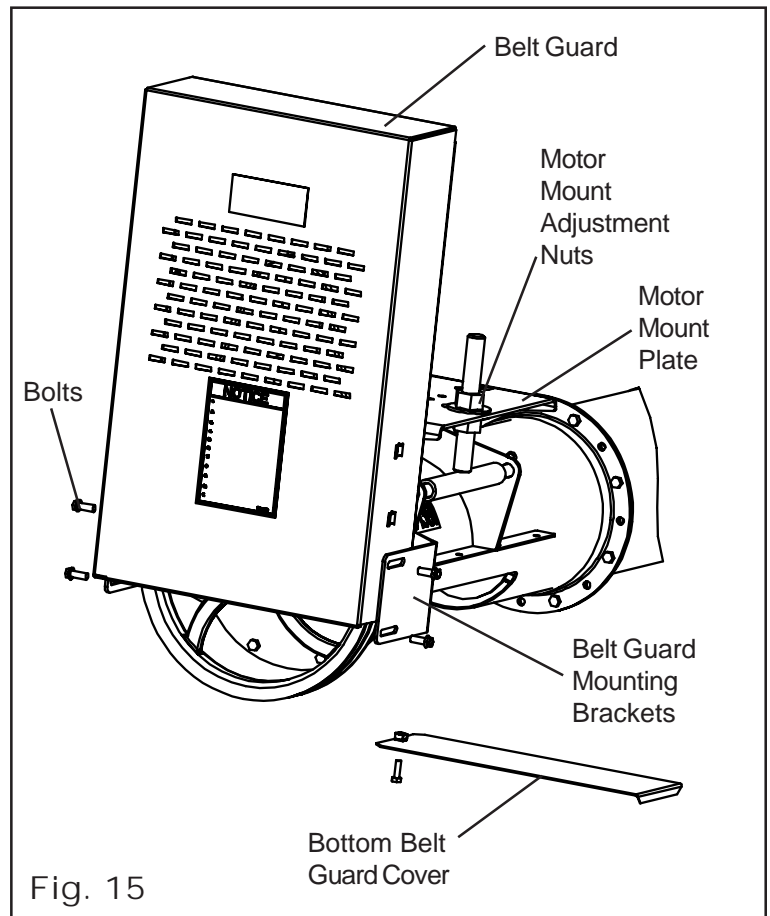

Fig. 15
- C. Align the motor shaft and the Flight Drive Shaft in the Belt Guard's slot, making sure that the Belt Guard DOES NOT contact either pulley, and tighten down the Belt Guard Mounting Brackets to the Bearing Plate. (See Figure 15)